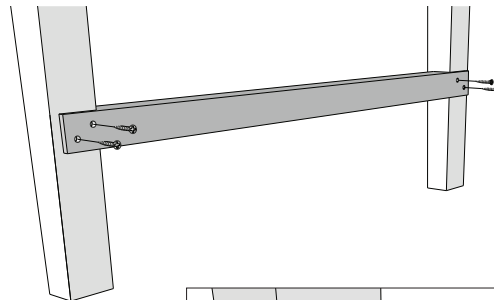

Figure 1
2. Attach footrest tube to back surface of front legs using Phillips screws into pre-drilled holes, as shown in figures 1 and 2. Tighten screws securely using care not to strip.